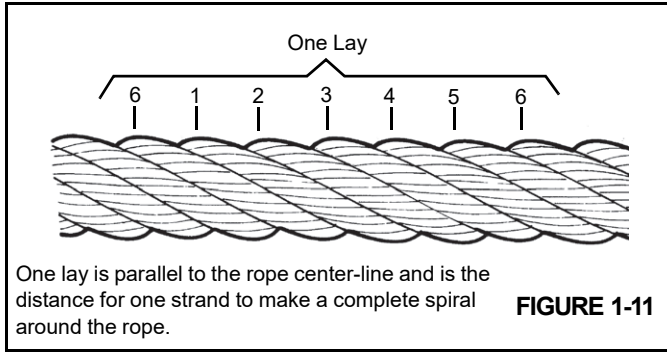

FIGURE 1-11
- In running ropes, six randomly distributed broken wires in one lay or three broken wires in one strand in one lay (Figure 1-11).